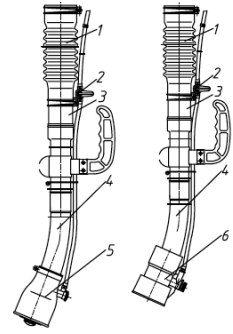

Fig 4.
C. Connect spraying pipe to the machine as shown in Fig.4.